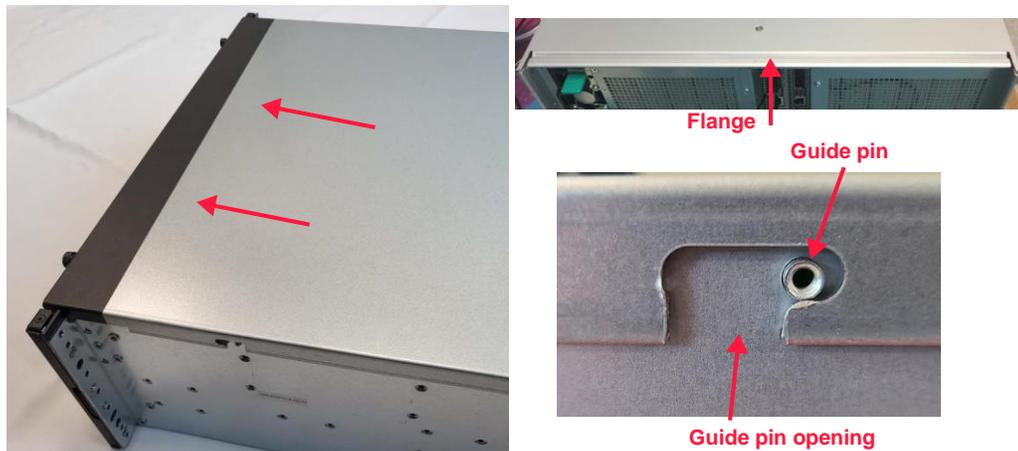

Figure 3.5 Top cover removal
2. Use both hands to apply a gentle downward pressure on the top cover. Slide the cover forward enough to clear the flange at the rear of the enclosure, aligning the six guide pins (three on each side of the chassis) with the six guide pin openings (three each on each side of the cover). Refer to Figure 3.5 to view the guide pins and openings.